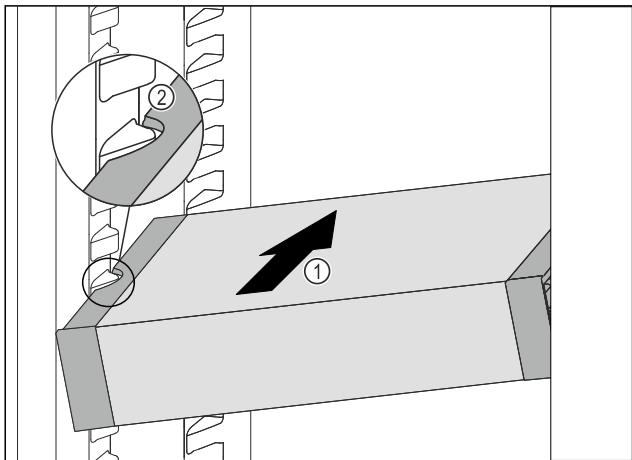

Fig. 121
- ▶ Insert the VarioSafe into the fridge section at an angle *Fig. 121 (1)* until the recesses in the side *Fig. 121 (2)* of the VarioSafe are at the level of the support rib in the fridge section.